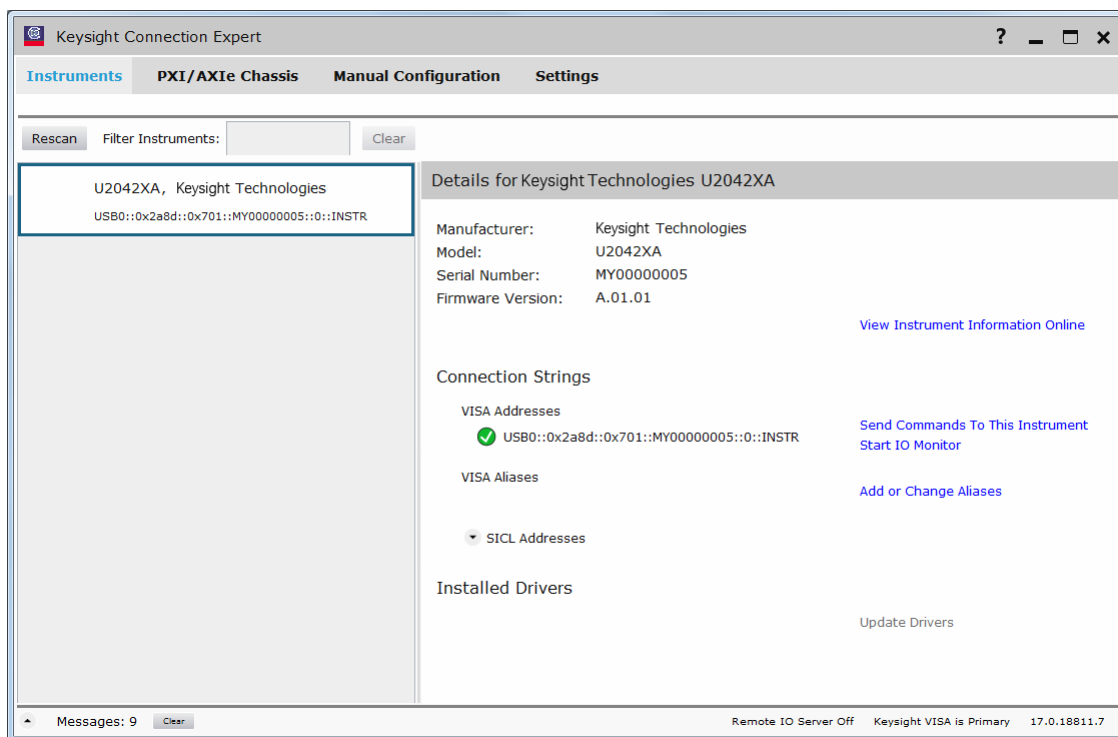

Figure 1-5 Auto-locate a USB instrument in Keysight Connection Expert
- 2 Launch the Keysight Connection Expert by selecting the IO icon (). Auto-locate the sensor as shown in **Figure 1-5**. Click **Rescan** to start searching.